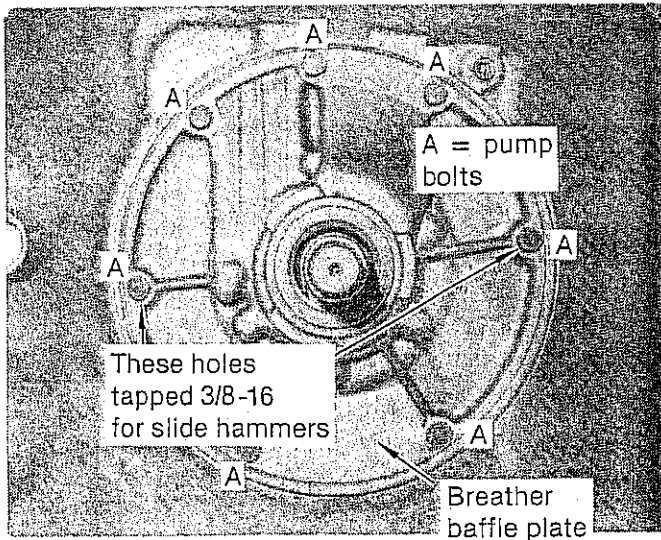

FIGURE 9
STEP 4. Remove seven 5/16" front pump bolts. (See Fig. 9) The pump bolt holes at the 3 and 9 o'clock positions are tapped for 3/8-16 thread. Use a pair of slide hammers or a length of chain at these locations to "bump" the pump out of the case. Remove the pump and set it aside.